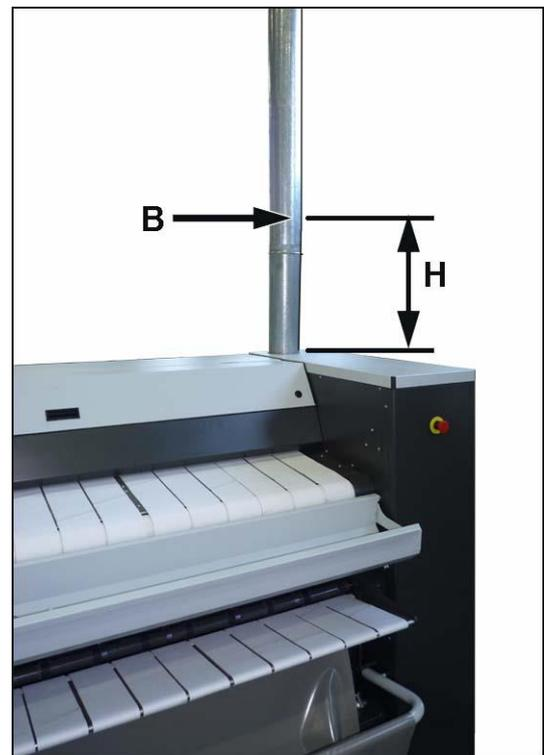

Fig. 4.1
**Measurement of maximum pressure (Figure 4.1)**